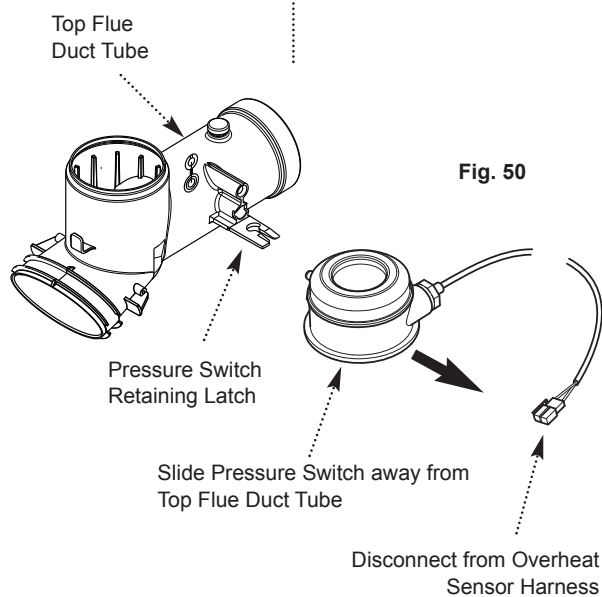

Fig. 50
10.3.5 Pressure Switch (24 & 30 only) (Fig. 50)